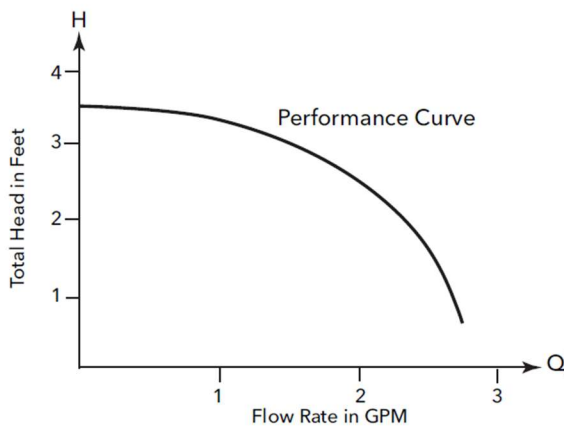

Figure 1
Pump curves are established by the manufacturer under carefully controlled test conditions specified by international standards. The pump curve in **Figure 1** illustrates the relationship between how much flow (Q) a pump can deliver against the corresponding head (H).